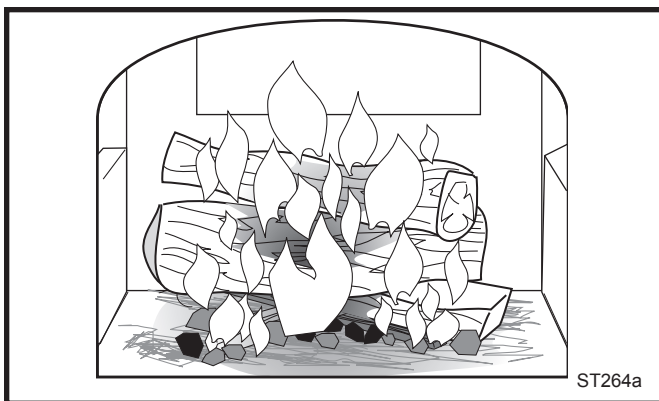

**Fig. 34** Add larger pieces of wood as the fire begins to burn well.
**4. If your Defiant has been broken-in previously** using Steps 1-3, continue to build the fire gradually. Add larger wood with a diameter of 3-4" (75-100 mm). Continue adding split logs of this size to the briskly-burning fire until there is a glowing ember bed 2-3" (51-75 mm) deep. (Fig. 34) A good ember bed is necessary for proper functioning of the non-catalytic system and may take an hour or more to establish.